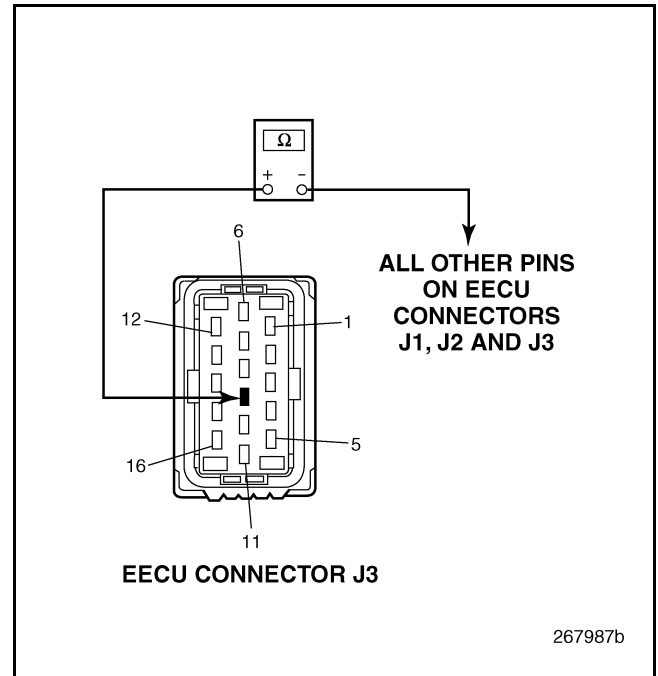

Figure 754
4. Check for continuity between EECU harness connector J3 pin 9 and all other pins on EECU connectors J1, J2 and J3 (see Figure 754).